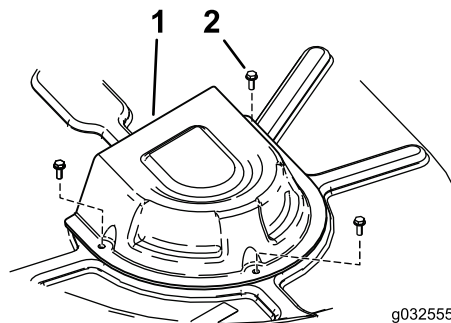

Figure 55
4. Remove the pulley covers (Figure 55).